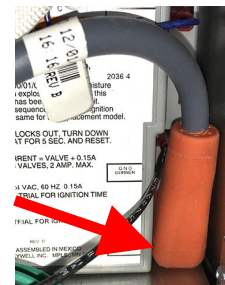

Figure 4
7. Disconnect both spark cables from the module (see Figure 4).